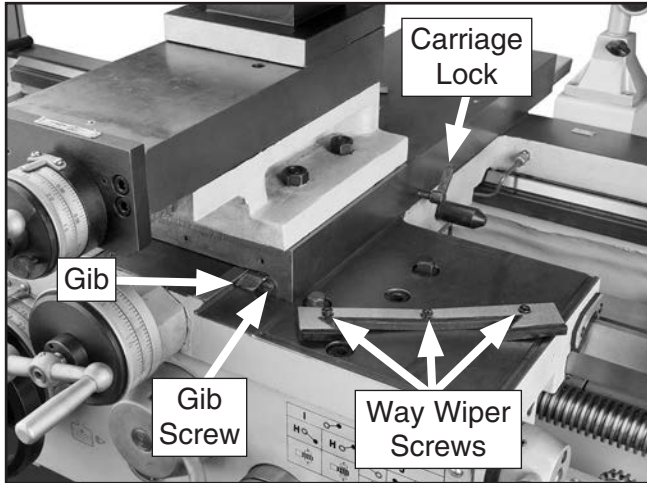

Figure 129. Cross slide gib components.
2. Unthread the three screws that secure the cross slide way wiper, then remove it (see **Figure 129**).
3. Loosen the carriage lock (see **Figure 129**).